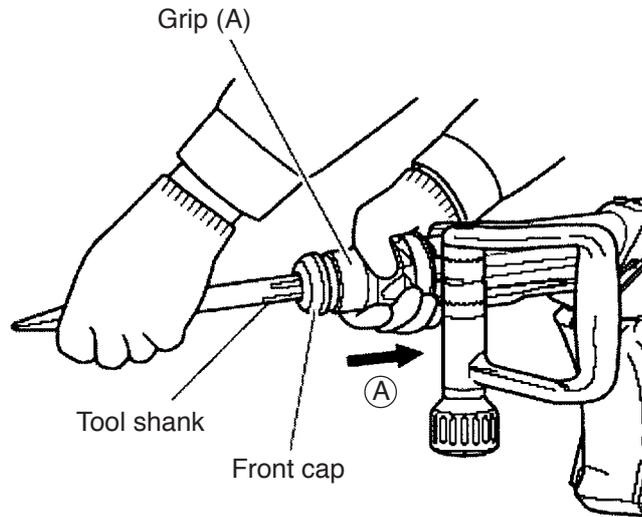

Fig. 9
The Model H 45MRY is equipped with a slide-type tool retainer. Tools can be attached and detached just by pulling grip (A). While pulling grip (A) in (A) direction, insert the tool in the hole of the front cap (Fig. 9). Adjust the groove position by turning the tool and push it in to the end. Lock the tool by returning grip (A) back to the original position.